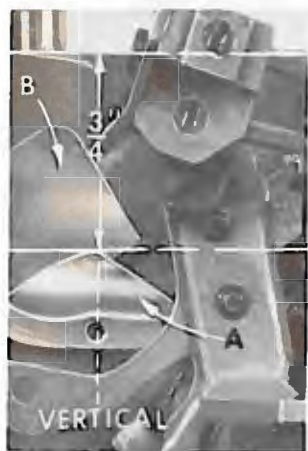

Fig. 18
Set 401 looper thread take-up cam eyelet so rear eyelet hole is directly under looper thread cast-off corner of cam (A, Fig. 18) when cam is at its most rearward position. Front and rear eyelet holes to be set horizontally. Looper thread eyelet (A, Fig. 19) to be set vertically and approximately centered in its slot.
When the 401 looperthread cam is correctly positioned on the needle arm shaft, the cast-off corner (A, Fig. 18) will be $\frac{3}{4}$ inch vertically below the top surface of the bed, when the needle arm is at its highest position (Fig. 18). This adjustment is made at the factory, but if checked and moved, it must be observed that the cam functions as a thrust collar for the needle arm shaft and correct thrust must be maintained. If this setting is correct, the casting-off may be timed. To change the time of casting-off, move the cast-off blade (B) up or down, rotating it about its holding screw. Set cast-off blade to cast-off looper thread when the needle point is between the bottom and top of the looper.
Observe the action of the looper thread take-up at the bottom of the needle stroke. The looper thread is lying across the cam lobes, slack from the previous casting-off. As the needle arm rises to the top, the looper thread will begin to tighten across the cam until cast-off will again occur and the looper thread will lie in the crotch of the cast-off blade (B, Fig. 18).